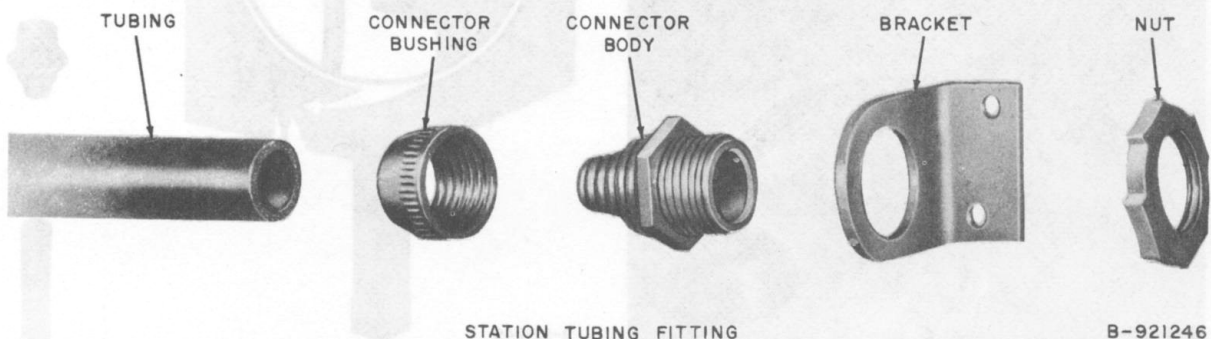

Fig. 3—Assembly of Station Tubing and Fittings to Brackets
2.03 Methods of assembly and uses of station tubing and wiremold assembly are shown in Fig. 3, 4, 5, and 6.